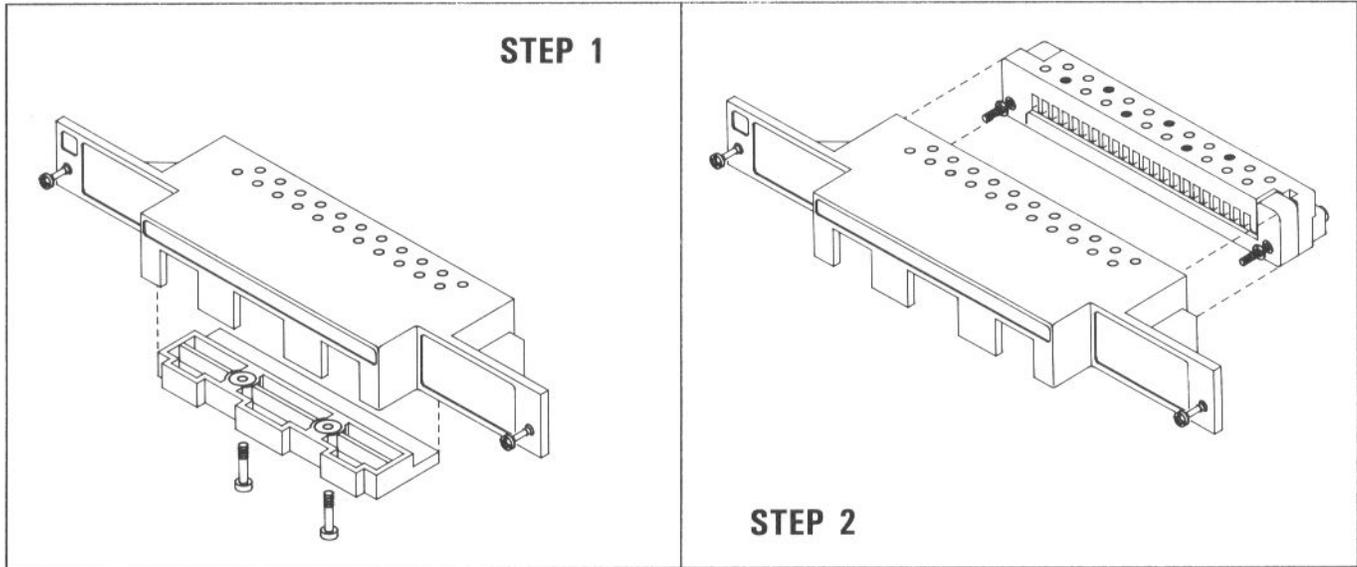

Figure 2-13. Wiring Block Disassembly
- a. Remove the Strain Relief Plate from the bottom of the Strain Relief Housing (Figure 2-13, Step 1)
- b. Remove the Wiring Block from the Strain Relief Housing (Figure 2-13, Step 2).